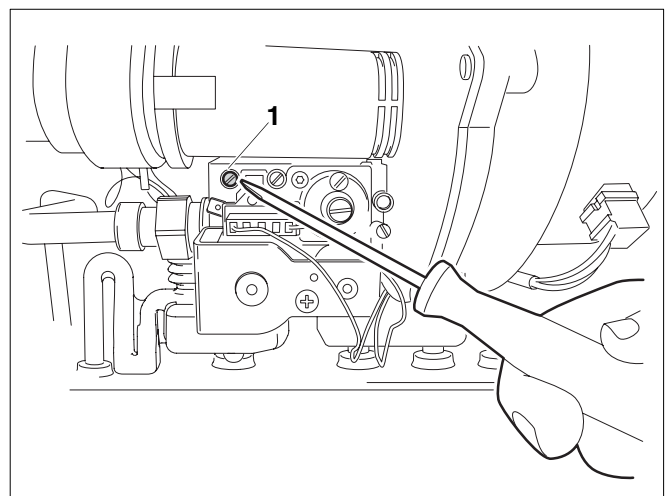

Fig. 27 Venting the gas supply conduit
- Loosen the screw plug on the testing nipple for the gas connection and venting (fig. 27, pos. 1) by two turns and fit a hose.